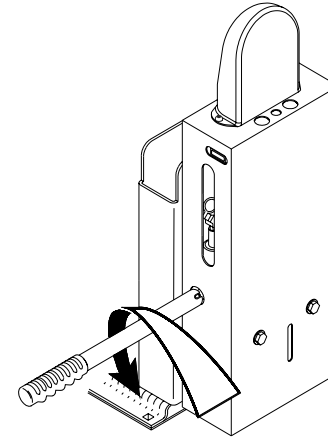

FIGURE 2-12: OPEN RELEASE VALVE
- b. Refer to **Figure 2-12**. Insert notched end of pump handle into circular hole on hydraulic pump cover and engage pump release valve.
- c. Refer to **Figure 2-12**. Turn valve $\frac{1}{4}$ turn counter-clockwise to begin lowering platform.
- a. Refer to **Figure 2-12**. Turn valve 1/4 turn counter-clockwise to begin lowering platform.
- a. Refer to **Figure 2-12**. Verify that pump release valve is closed; do not over-tighten valve.